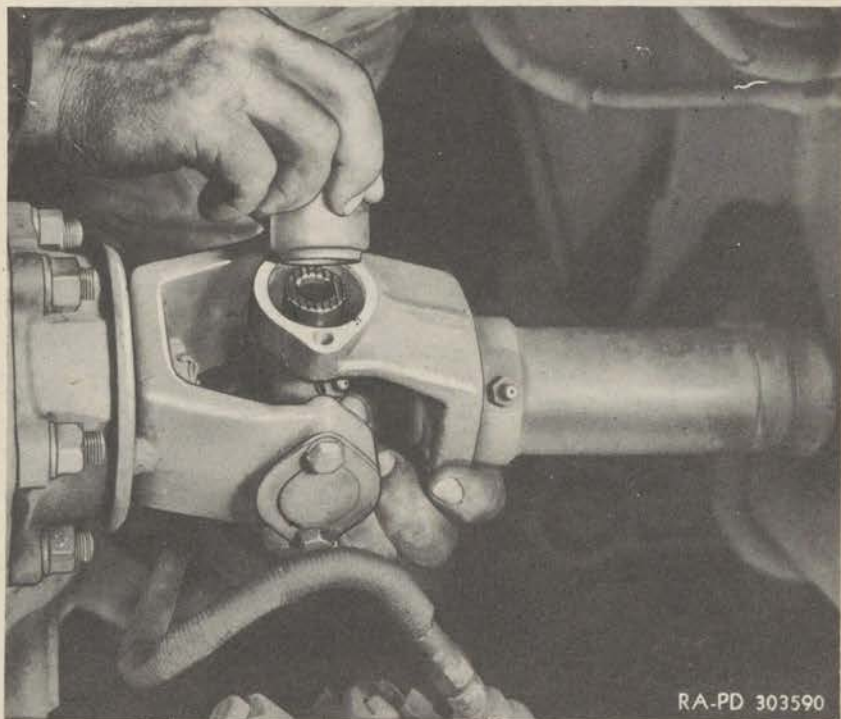

Figure 106—Installing Needle Bearing
(1) **CONNECT END YOKE OF PROPELLER SHAFT ASSEMBLY TO THE JOURNAL.** Slip the end yoke end of the propeller shaft assembly into position, and tilt the universal joint journal at the front of the through shaft for the rear rear axle in such a way that it may be worked into position in the end yoke of the propeller shaft. Then install one needle bearing cage assembly through the hole on each side of the end yoke and over the trunnion journals (fig. 106). It will be necessary to tap the end of the needle bearing cage lightly in order to drive it into
(2) **CONNECT SLIP JOINT YOKE TO THE UNIVERSAL JOINT JOURNAL.** Connect the slip joint yoke to the universal joint journal in the same manner in which the end yoke was installed (fig. 106).